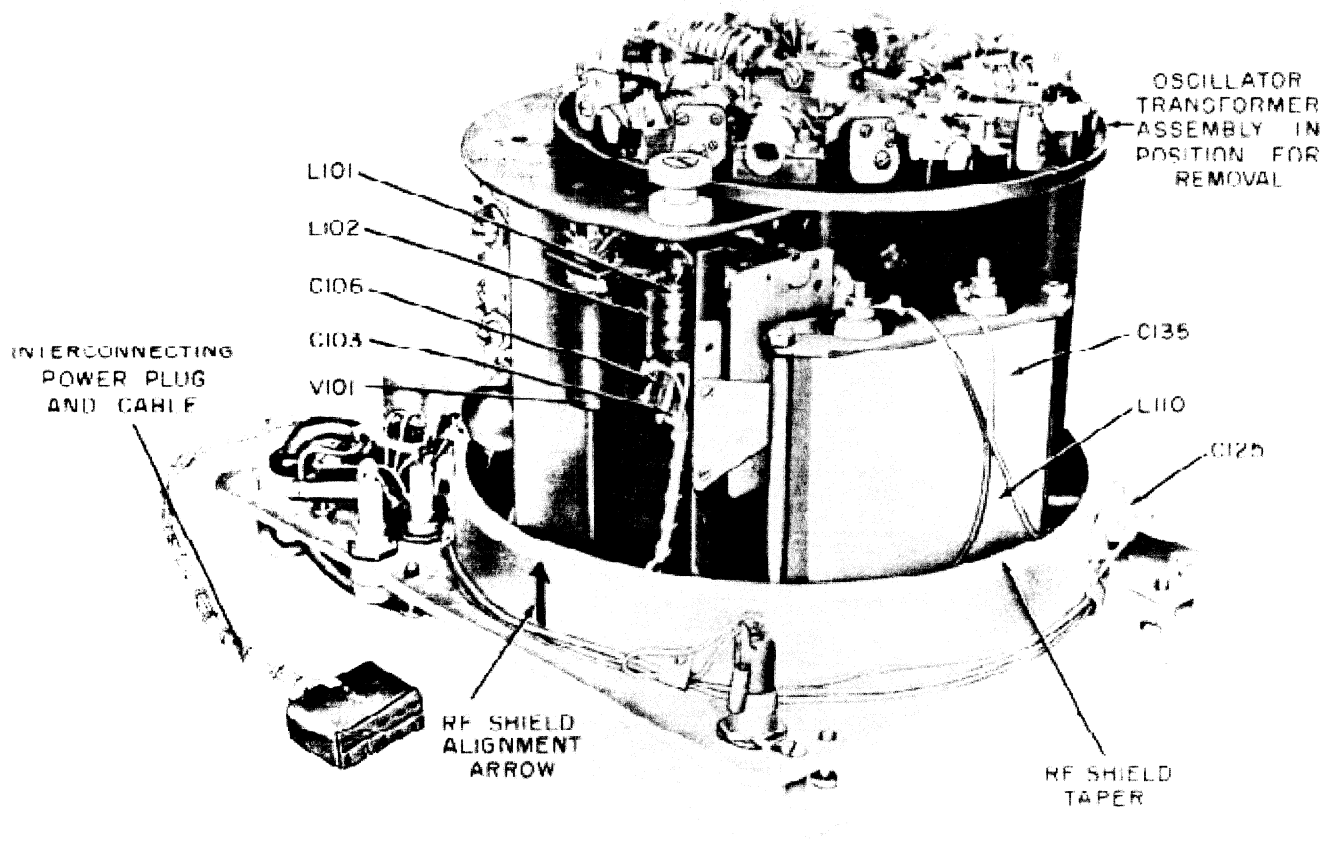

Figure 7-6. Bridge Assembly Components
When replacing the RF shield assembly be sure the red indicator line on the RF shield assembly lines up with red arrow on the front panel casting. The arrow is located below the RF oscillator tube V101. The RF shield assembly must not be tilted and the shield should fit snugly on the paper provided in the front panel. (See figure 7-6.) Failure to properly position the shield will prevent reassembly.
### 12. REMOVAL OF OSCILLATOR TRANSFORMER ASSEMBLY. (See figures 7-6 and 7-7.)
(1) Remove the signal generator from its case. See paragraph 7.
(2) Remove RF shield assembly. See paragraph 8.
(3) Position the signal generator chassis face down and allow it to rest on the front panel handles.
(4) Rotate turret assembly so that desired oscillator sector assembly has its trimmer capacitor approximately above feed-thru capacitor C125. See figures 7-6 and 7-7.
(5) Remove the two holding nuts and catch two holding bolts which will drop down.
(6) Lift out oscillator sector assembly.
(See figures 7-6, 7-7, 7-8 and 7-9.)